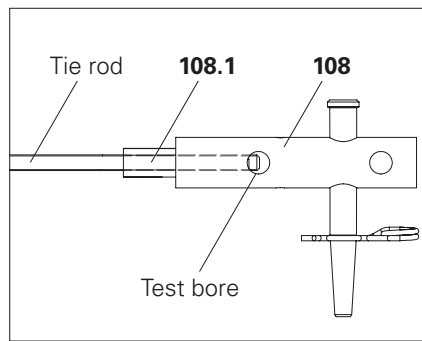

Fig. B1.01
2. Place the nut (108.1) of the Articulated Spanner DW15 (108) on the tie rod.
3. Screw Articulated Spanner DW15 (108) onto the tie rod until the tie rod is visible in the test bore.
- (Fig. B1.01)
4. Screw the Tension Tie Connection CB/SCS (105) onto the tie rod.